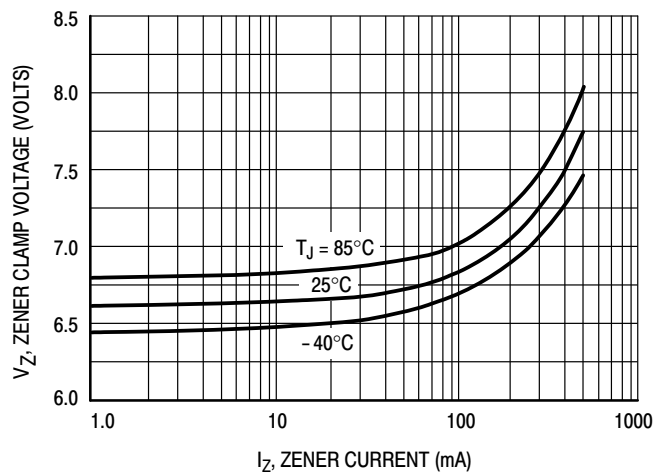

Figure 7. Zener Clamp Voltage versus Zener Current
- Using the max output current calculated in step 1, check Figure 7 to insure that the range of Zener clamp voltage over temperature will satisfy all system and EMI requirements.